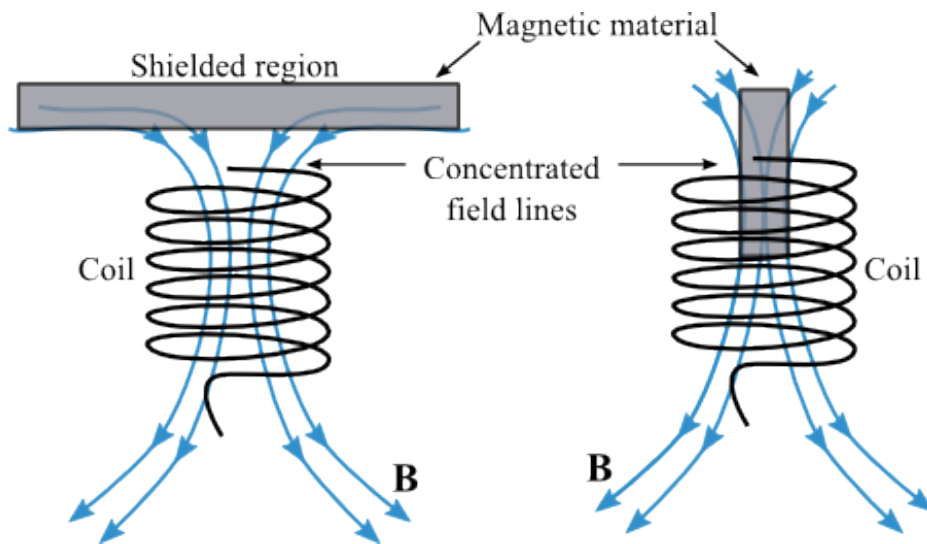

Figure 7
- Note that the behavior you observe characterizes the steel sheet as paramagnetic. Paramagnetic material can be identified by the attraction to either pole of a magnet (whereas another magnet will be attracted or repelled depending on the pole orientation). In paramagnetic materials, \mathbf{B} fields induce internal currents having the direction that produces attraction. Induced fields tend to concentrate magnetic field lines, since they always present the “opposite” pole in response to the applied field resulting in magnetic attraction between the objects. Figure 7 illustrates these two behaviors, showing how these magnetic materials can be used to shield a region from magnetic field or to concentrate the field in a particular region.